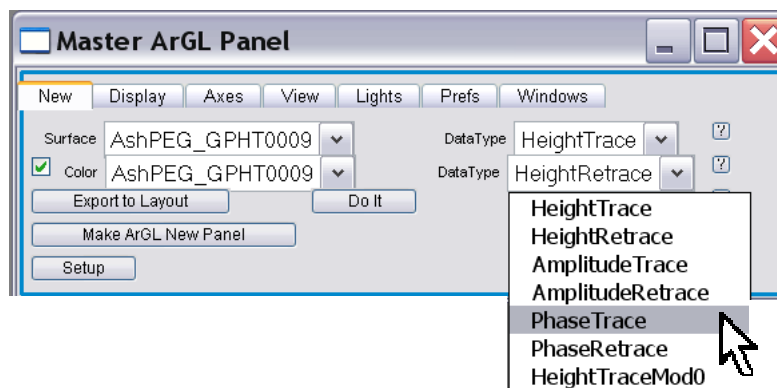

Figure 13.9: Overlaying image channels in ARgyle.
- ✓ Click the color checkbox , and then choose the same image file, and the other data channel that you want to over lay (Figure 13.9). Make sure to keep the same direction in the overlay for proper registration (i.e. Trace with Trace).